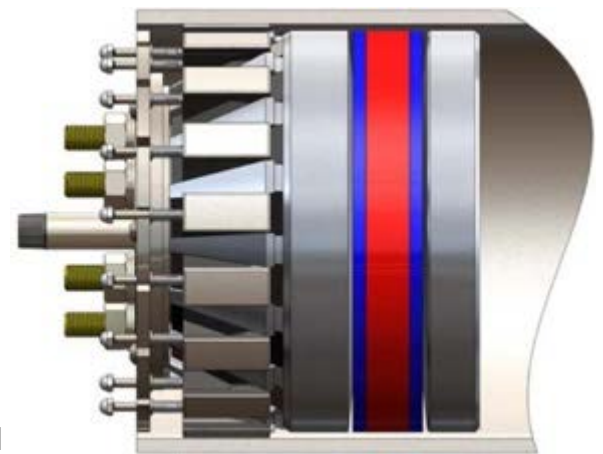

Figure 5: GripSafe ST ORB Auto-Locking Minimum Insertion Depth in a Sectioned Pipe
- Once the **Wedge Grippers (4)** have engaged with the pipe's inner diameter, each will be in independent contact with it. Retraction or removal of the plug is not possible at this stage unless the **Compression Hex Nuts (19)** are loosened. If removal is necessary, refer to Section 7 for the plug removal procedure.
- 6.4 Insert the plug until the top of the **Spring Plate Hub(18)** is at least flush with the end of the pipe. See Figure 5.